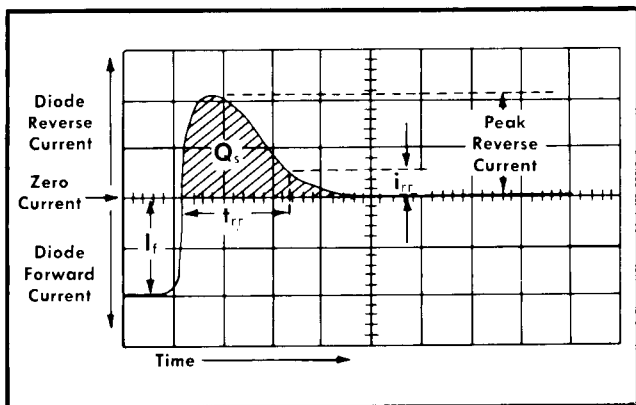

Fig. 2-30. Diode reverse recovery switching display.
**Stored Charge ( $Q_s$ )**—Amount of charge stored by the diode, and recovered during reverse recovery. Represented by shaded area in Fig. 2-30, and usually stated in coulombs.
8. Turn the pulse generator on, and set the oscilloscope triggering controls for a display similar to that shown in Fig. 2-30. Use this display to measure the reverse-recovery switching characteristics of diodes whose  $V_r$  (then  $E_{gen}$ ) is known. Proceed to step 9 if the peak reverse current is known.